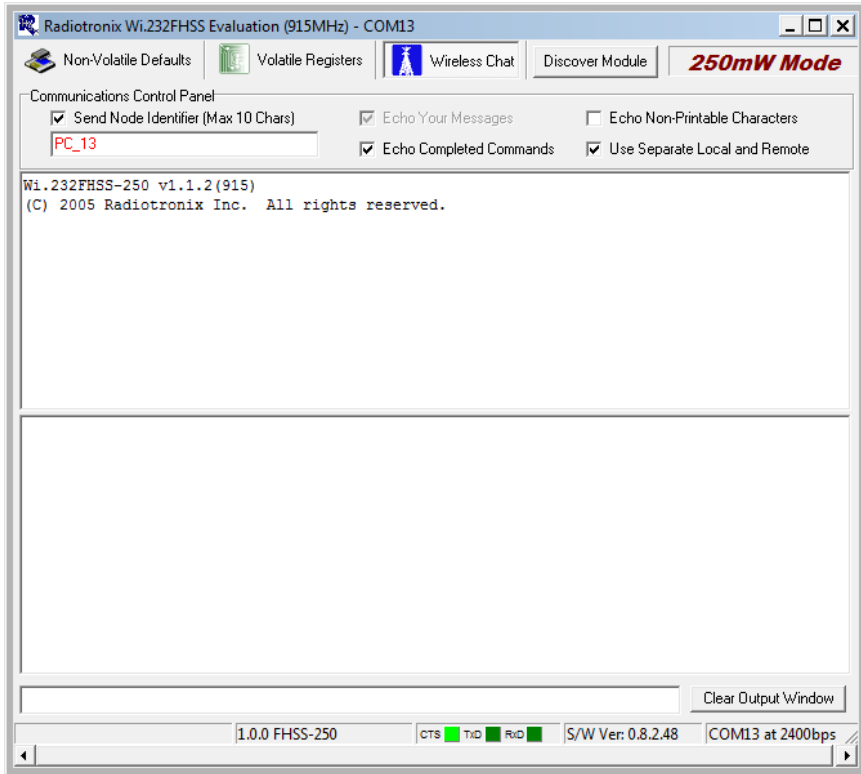

Figure 10: 250 Series Transceiver Development System Software Wireless Chat Tab with Module Information
9. Power-On both development boards, verifying that the version / copyright information is displayed on the screen from both modules (Figure 10).